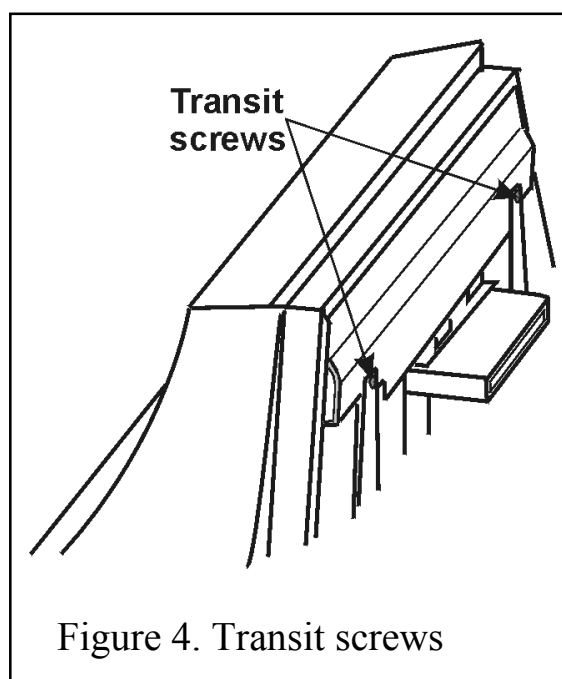

Figure 4. Transit screws
5.3.2 Remove the two transit screws from near the top of the back panel extensions. See figure 4.